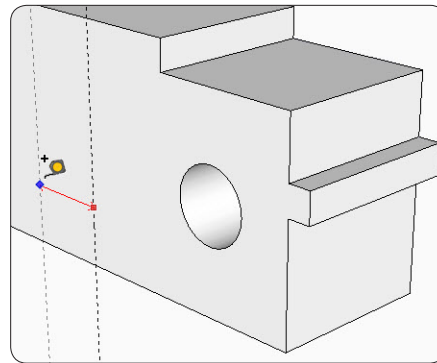

Figure 16. Two Parallel Guide Lines mark the edges of a dado on the bottom of the piece.
Step 13 A $\frac{3}{8}$ -in.-deep dado runs across the bottom face of the piece, providing a channel for a wooden guide in the vise assembly. To create the dado, begin by placing two Parallel Guide Lines on the front face to define the width of the dado. Use the Tape Measure Tool to place the first guide line $4\frac{1}{8}$ in. from the right edge of the piece. Place the second guide line $1\frac{1}{4}$ in. to the left of the first. The guide lines should look like the ones in Figure 16.